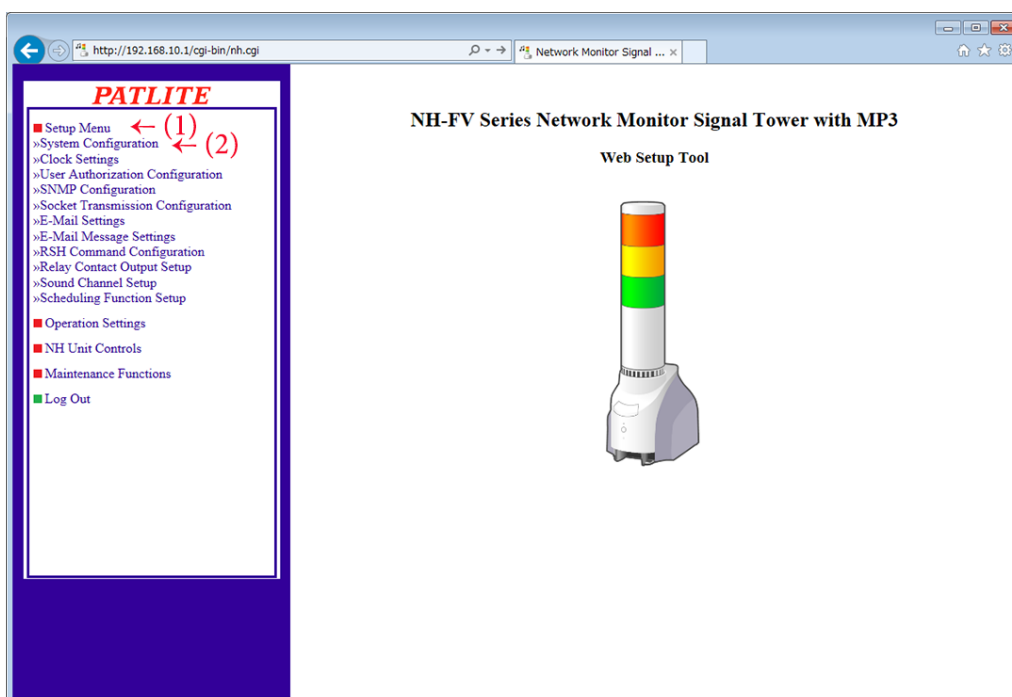

Figure 2.7.2-1 Web Setup Tool Screen
- (1) Click the "Setup Menu" in the Setup Table Entry on the left-hand side of the setup screen.
- (2) Click "System Configuration" from the tree menu. The System Setup Screen is displayed. (Refer to "Figure 2.7.2-2")